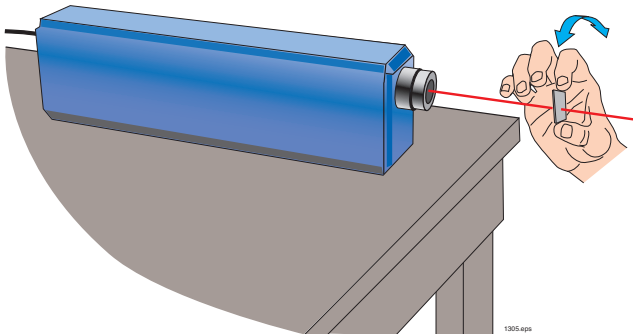

Figure 14. Side view showing proper position of the polarization filter.
5. Depress the ON/OFF switch (SW) on the control scattering tankel of the laser until it clicks into the ON position. (The switch should be slightly depressed.)
7. Hold the polarization filter in the path of the laser beam between the laser and the beamstop. Hold the filter stationary, at a 90 degree angle to the beam, as shown in Figure 14.
8. Observe the beam pattern on the beam stop for about 60 seconds. If the beam varies in brightness, your laser is randomly polarized. If the brightness is constant, your laser is either linearly or uniformly polarized. In the latter case, rotate the polarization filter a complete 360 degrees, as shown in Figure 14.